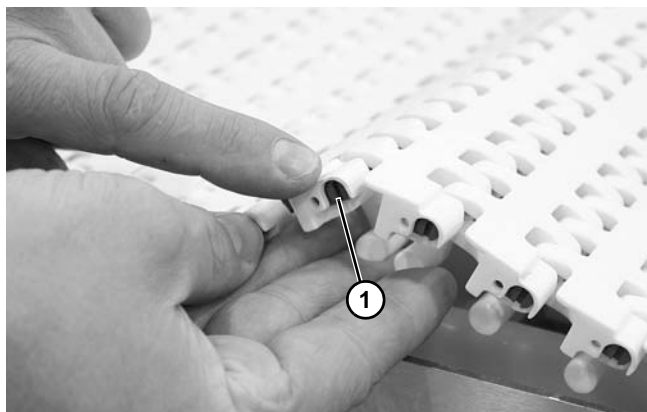

Figure 35
1. Lift up the belt near the tail end of the conveyor, or near a straight section. Locate the slotted end of the rod head (Figure 35, item 1).